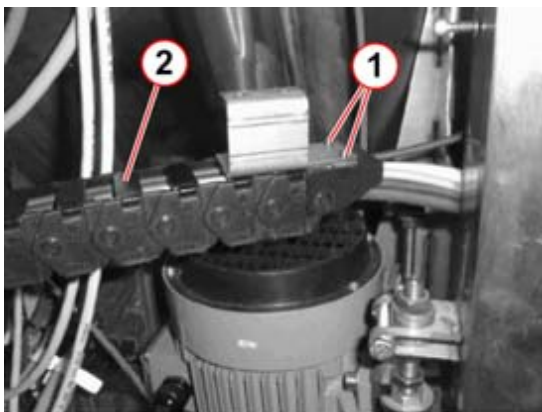

Fig. 9: Chain mounting
- Remove the two screws from each mounting piece (1/Fig. 9 / p. 16) at the chain (front and back).
- Open the clips (2/Fig. 9 / p. 16) and remove the cable from the chain.